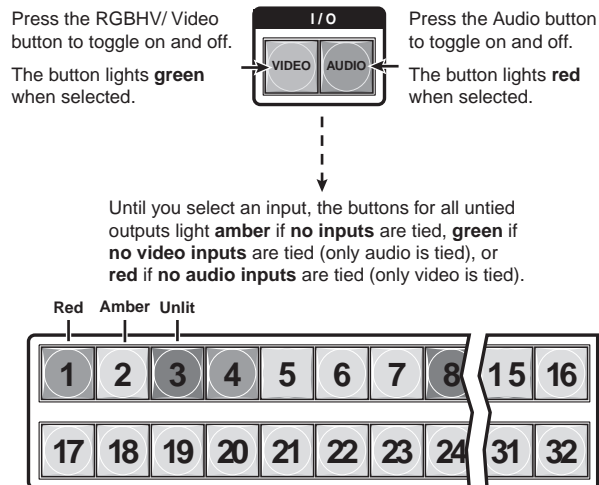

Figure 3-52 — Select RGBHV or video and audio
3. To select both video and audio for viewing and muting, if necessary, press and release the RGBHV (CrossPoint 450 Plus switchers) or Video (MAV Plus switchers) button and the Audio button (figure 3-52).